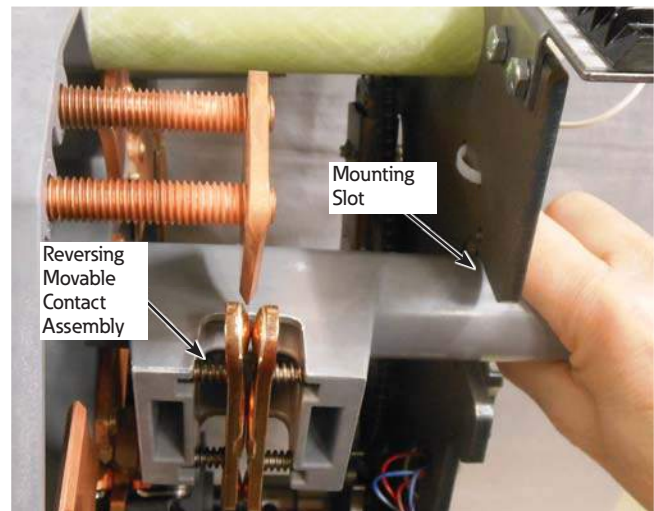

Figure 14. Reinstalling reversing movable contact
16. Partially install the reversing neutral stationary contact into the mounting holes as shown in Figure 14.
17. Place the new reversing movable contact into the mounting slot in the tap-changer front panel, aligning the movable contact assembly with the reversing neutral stationary contact. See Figure 14.